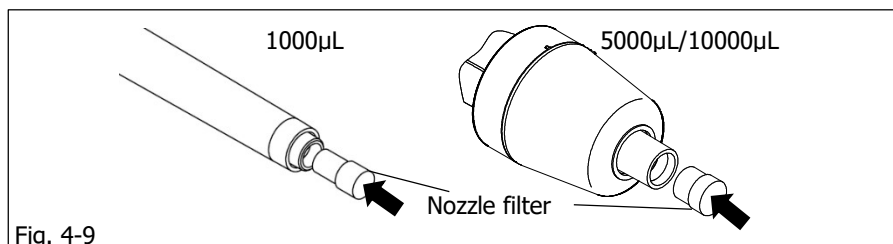

Fig. 4-9
3) For the 1000 μ L, 5000 μ L, 10000 μ L types, the attached nozzle filter can be attached to the nozzle as required. Insert the nozzle filter firmly into the nozzle before use. (Fig. 4-9)